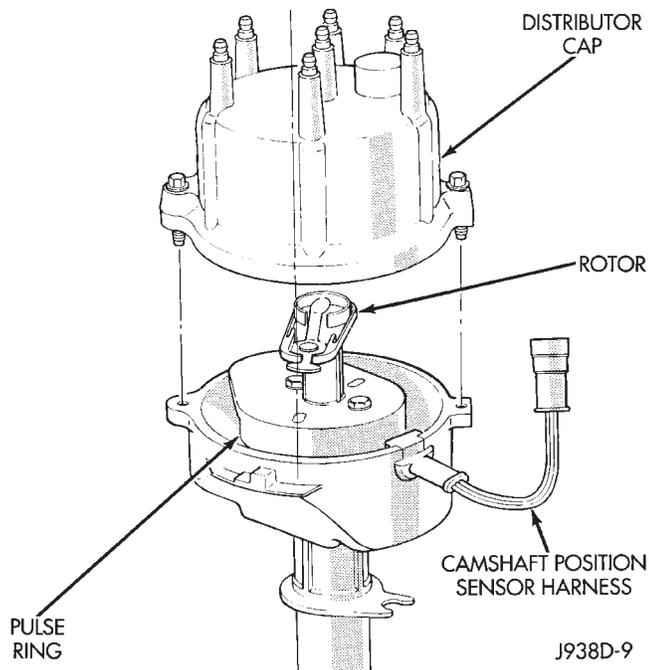

Fig. 16 Align Rotor Trailing Edge With Scribe Mark
(6) Align the trailing edge of the rotor blade with the scribe mark on the distributor housing (Fig. 16).
(7) Remove the distributor holddown bolt and clamp.
(8) Remove the distributor from the engine by lifting straight up. Remove and discard old distributor-to-engine block gasket. Note that the rotor will